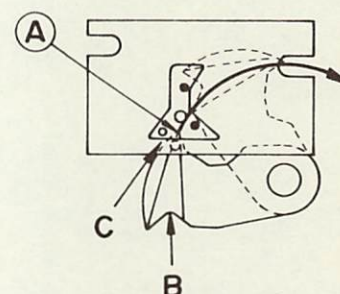

Fig.30
- \* As seen by Fig.30, the (A) part of the needle hole guide is cut diagonally by 0.5mm(1/64"), but if this clearance is too small, the thread will be pinned between the moving knife and the needle hole guide and thus, the length of the needle thread after trimming will be exceedingly long or sometimes it will be torn, resulting in this faulty stitching condition.
- \* When the thread is trimmed normally, the thread does not remain in the shuttle race but if there are any remaining thread left in the shuttle race, the defective places can be classified in following order according to the condition of the remaining thread: (Refer to Fig.30)
- \* Correct moving route of the moving knife is for its thread handling device (A) to pass the inside end of the inner side of the needle hole. (Fig.30)